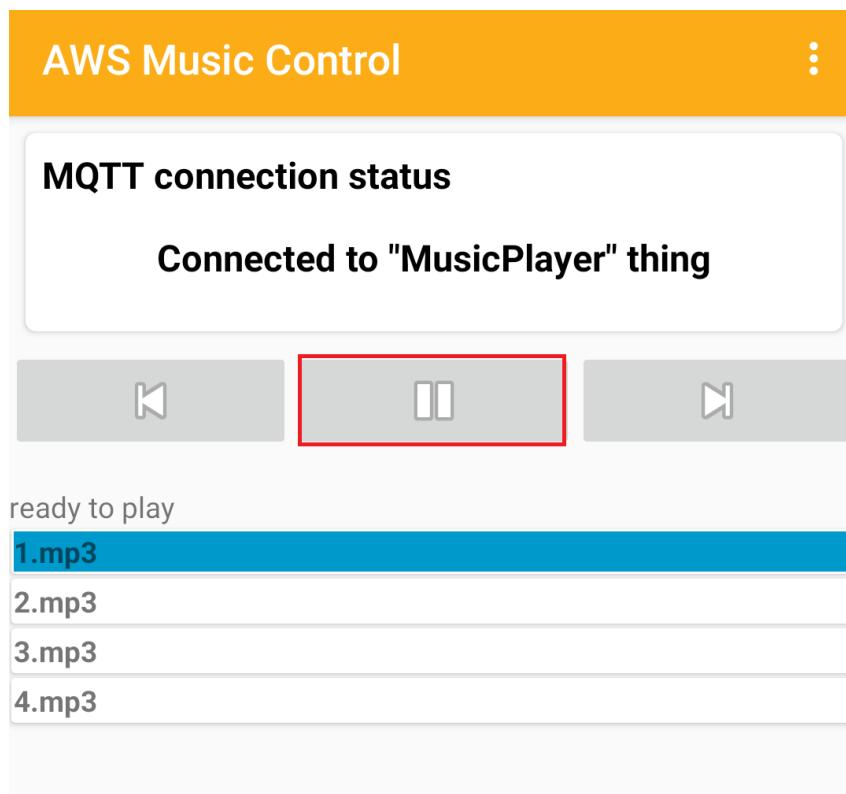

Figure 76: Pause music using Android application
The communication between the Open-thread RCP stack and the Link Layer (LL) is implemented via the SPI interface as shown on Figure 76.